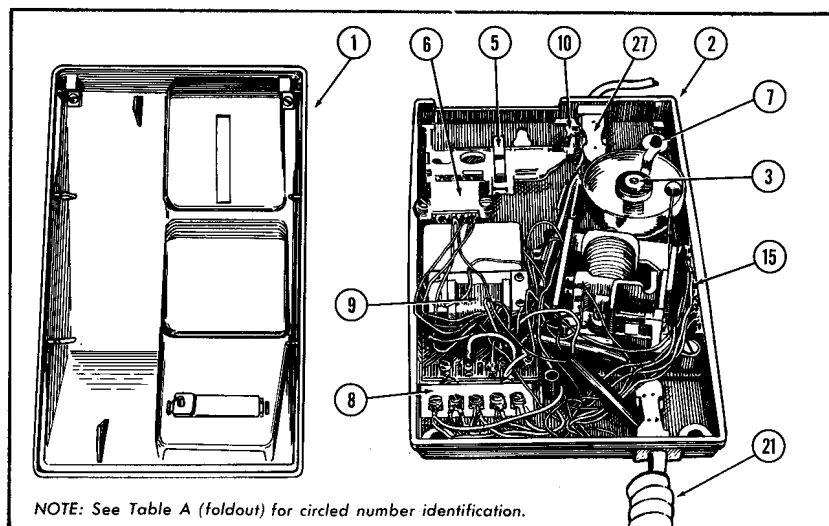

FIGURE 7. Components of Base Assembly
3.04 The QSK110 and 2110 sets are equipped with a dual purpose switch on the right-hand side of the baseplate (Figure 7) in front of the ringer volume control. The switch located closest to the front of the set is a two-position slide switch. The position towards the front of the set is referred to as "Line 1", while the position towards the volume control is referred to as "Line 2". The movement of this switch transfers the